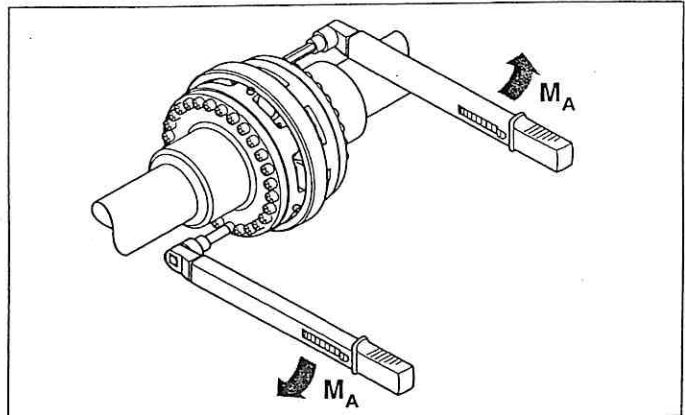

Fig. 8
- Before placing into operation, check the tightening torques  $M_A$  of the bolts according to Table 5 (Fig. 8).